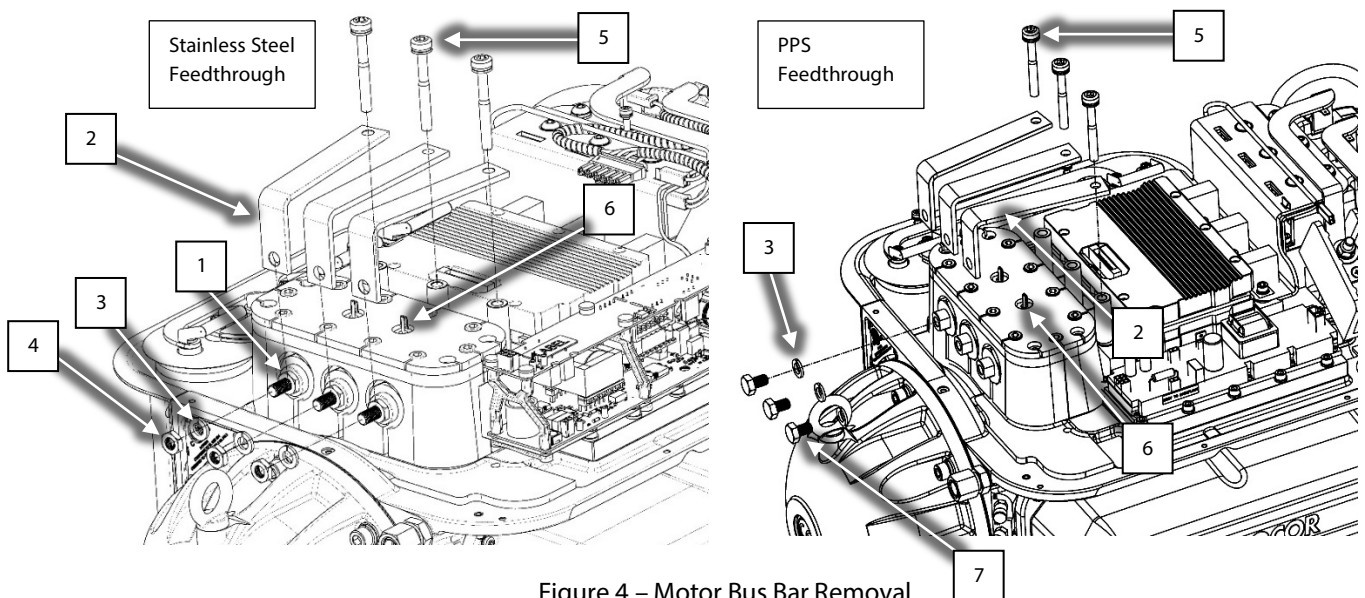

Figure 4 – Motor Bus Bar Removal
- Disconnect the two (2) connectors from Thermistor Sensor Feedthroughs. Refer to Figure 4 (Motor Bus Bar Removal).
- To remove the Motor Bus Bar, remove the three (3) M8x70 fasteners attaching the Bus Bars to the Inverter. Then remove the three (3) nuts or screws (depending on the installed feedthrough) from the Motor Bus Bars to the High-Power Feedthroughs. Refer to Figure 4 (Motor Bus Bar Removal) for examples of both versions.